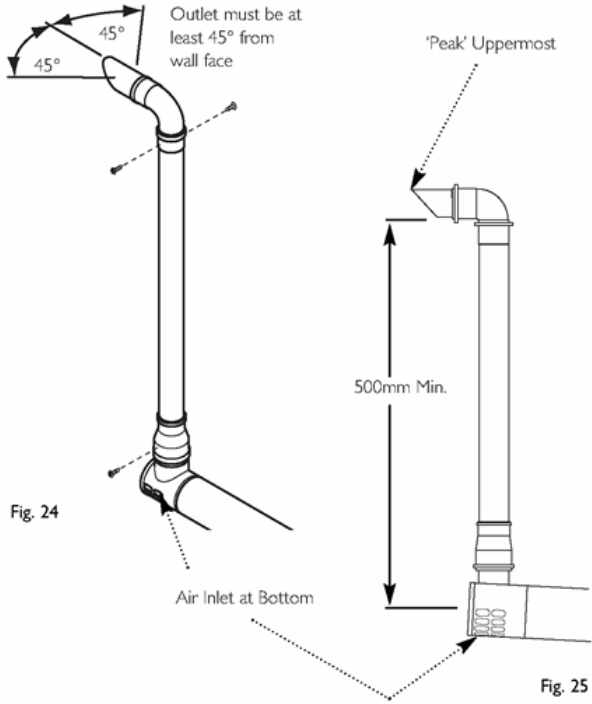

Fig. 24 & Fig. 25
3. The plume outlet must always be at least 45° to the wall, with the 'peak' uppermost to prevent rain entry (Figs. 24 & 25), and be at least 2 metres above ground level. It must be secured as shown in Fig. 18a. The plume outlet must also be at least 500mm from the air inlet in any direction (Fig. 25).